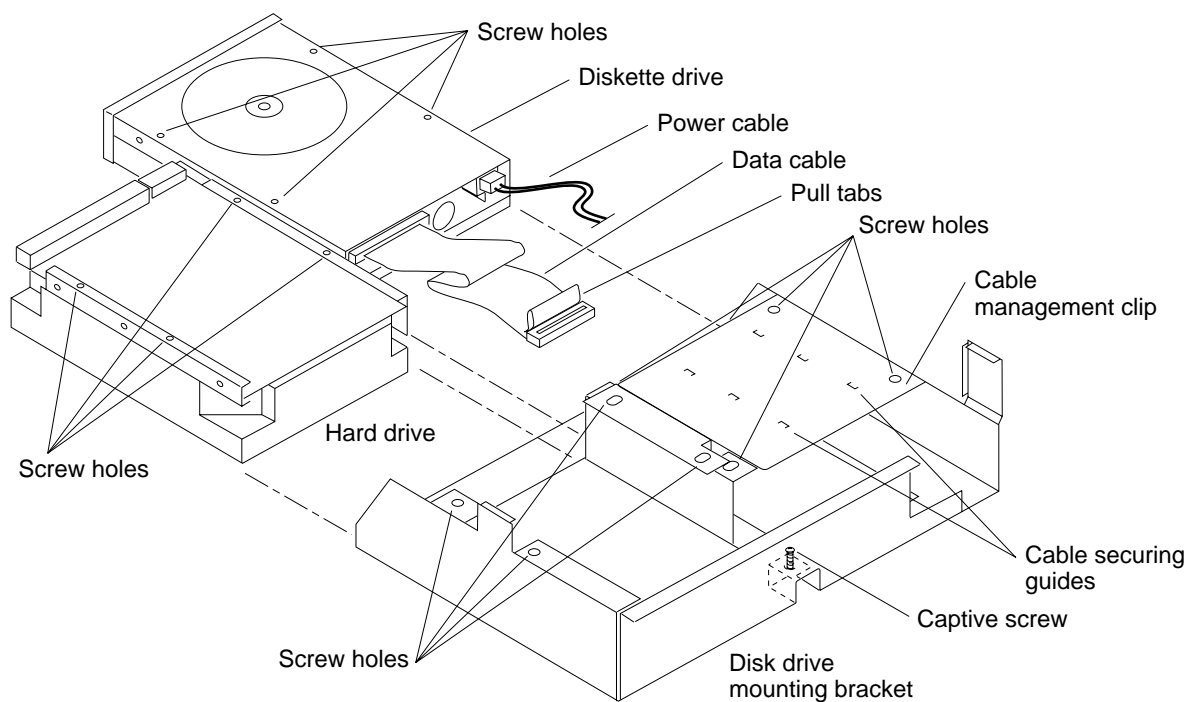

Figure 4-8 Disk Drive Mounting Bracket
4. **Detach the cables from the cable securing guides on the cable management clip over the diskette drive (see Figure 4-8).**
8. **Back off the captive Phillips head screw in the center rear of the bracket (closest to the power supply). See Figures 4-8 and 4-9.**
- 5. Secure the cables to the cable management clip over the diskette drive (see Figure 4-8 for the location of the clip and the cable securing guides).**
4. Remove the four Phillips head screws securing the hard drive to the bracket (see Figure 4-8).
The diskette drive is in the unit top at the front right side (see Figure 4-8). A 34-pin data cable and a 4-pin power cable connect to the rear of the drive. Four Phillips head screws attach the diskette drive to the mounting bracket. The drive and the mounting bracket (described above) are secured to the chassis by a single captive Phillips head screw at the center rear of the bracket. See Figures 4-8 and 4-9.
(See Figure 4-8.)
3. Slide the diskette drive out of the bracket as shown in Figure 4-8 and place it on an antistatic mat.